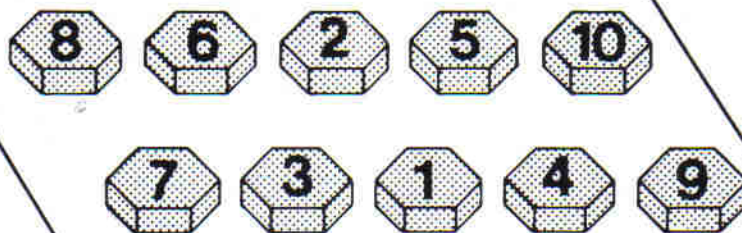

Fig. 1.14 Cylinder head bolt tightening sequence – OHC engines (Sec 29)
- 15 Remove the cylinder head bolts progressively and in the reverse order to that shown in Fig. 1.14.
- 26 Fit and tighten the cylinder head bolts in the sequence shown in Fig. 1.14 to the torque given in the Specifications (photo). No further tightening is required if fitted with 10 mm bolts. However, if 12 mm bolts are fitted, the torque should be checked after 1000 miles or one month (cold).